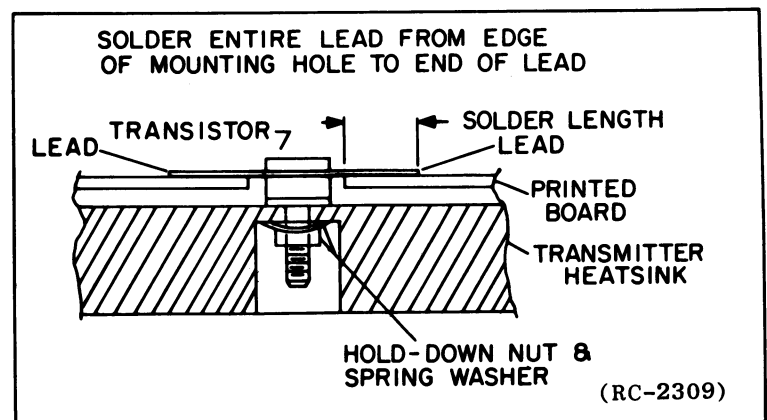

Figure 6 - Lead Forming
6. Make sure that the transistor leads are formed as shown in Figure 6 so that the leads can be soldered to the printed circuit pattern, starting from the inner edge of the mounting hole.